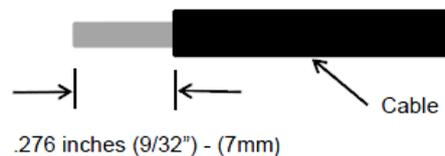

Figure 4-20
- Strip the cable 7 mm, see Figure4-20.